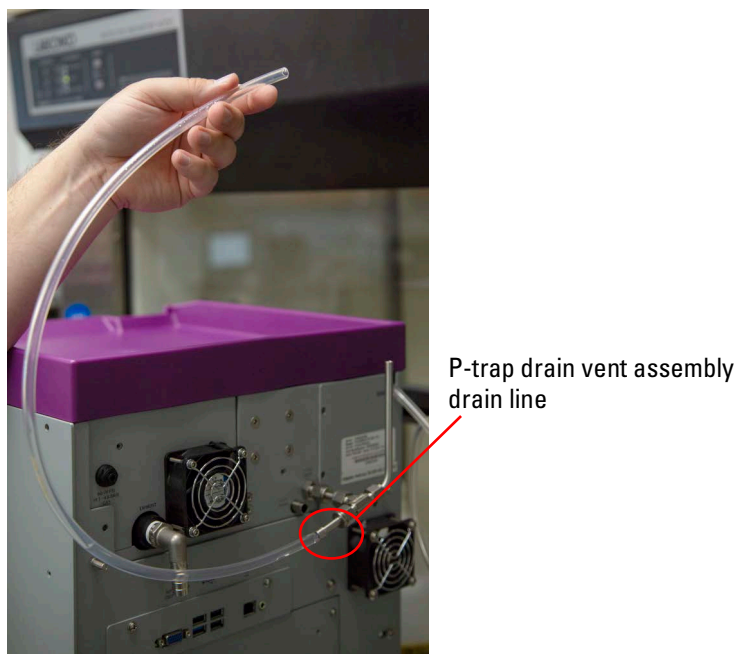

Figure 2-7 Keep liquid level lower than the top of the system
CombiFlash with optional ELSD only) The *CombiFlash* ELSD system has additional drains that must be connected (Figure 2-7):
5. Install the ELSD P-trap vent assembly found in the accessory package by placing the short tube into the port on the rear panel, orienting the vent as shown in Figure 2-7 and tightening the fitting nut finger tight plus a small amount more with a wrench. Be sure the P-trap drain vent assembly is oriented with the vent portion vertical.
6. The P-trap must be filled with fluid to prevent sample loss. To accomplish this, raise the drain tubing attached to the P-trap drain vent assembly above the instrument and place 10 mL of liquid, such as isopropyl alcohol, into the tube. Make sure the fluid level in the tubing doesn't exceed the level of the instrument case top. If the tubing is raised too fast, fluid may flow out the top of the vent tube causing a spill. Lift it high enough so the fluid enters the P-trap drain (Figure 2-7).